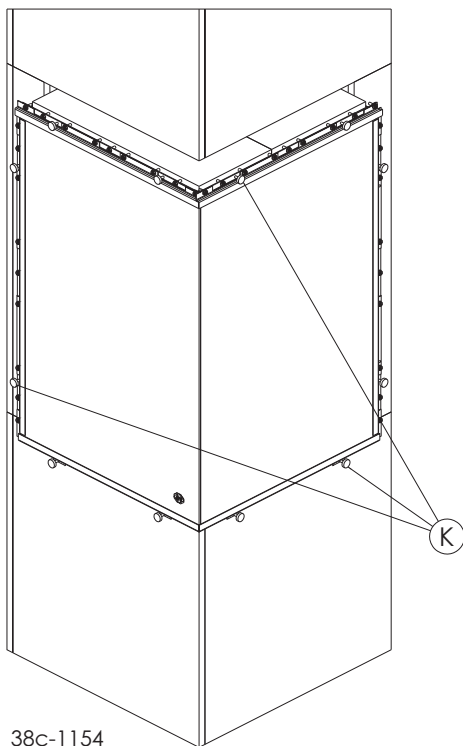

fig. 15a
- Screw the 12 magnets (K) into the appliance (fig. 15a).